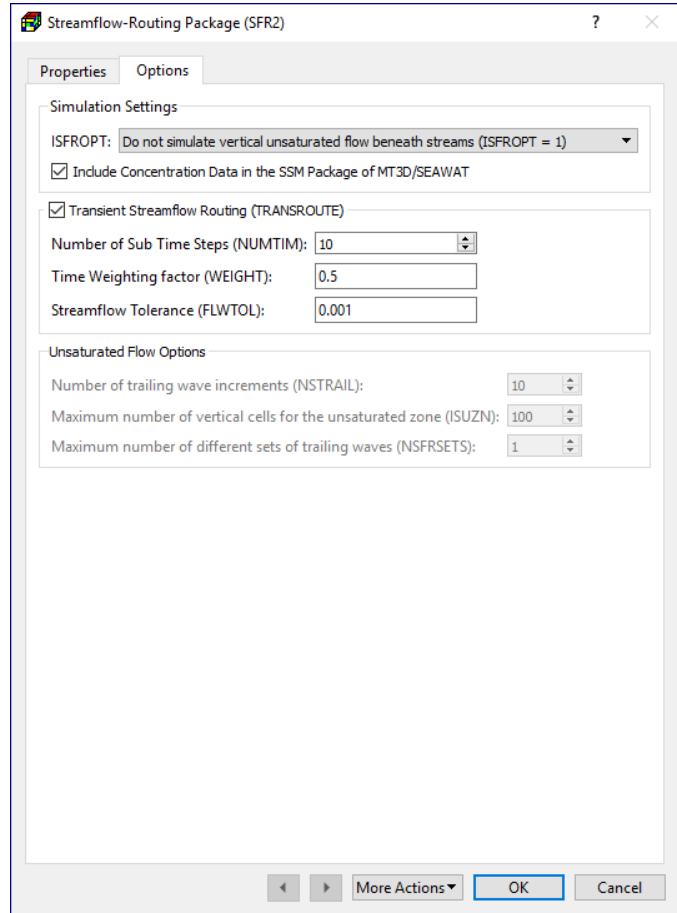

Figure 71. The Options tab of the Streamflow-Routing Package (SFR2) dialog box
1. **All input methods:** The data-entry dialog boxes of all input methods contain an Options tab (Figure 71) with the following common data.